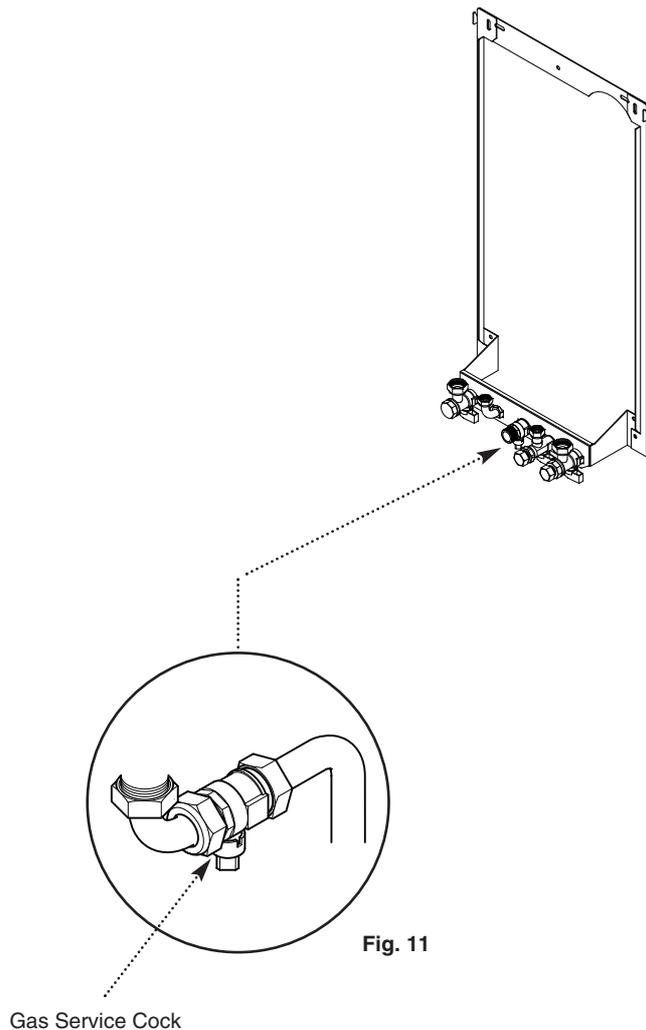

Fig. 11
2. The connection to the appliance is a 22mm copper tail located at the rear of the gas service cock (Fig. 11).